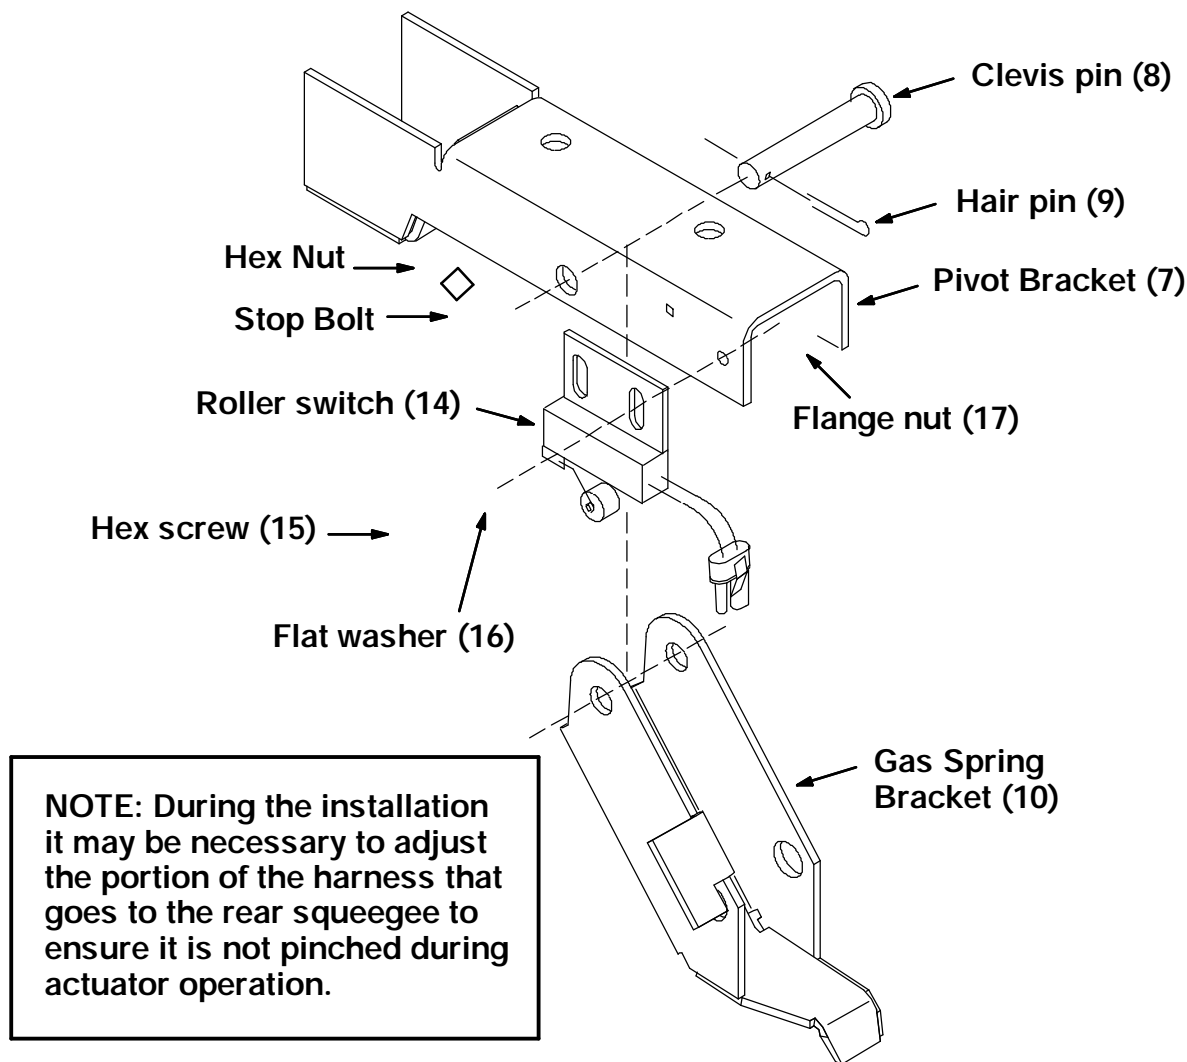

FIG. 3 - New Pivot Bracket and Switch Assembly
(Refer to Figures 3, 4, and 5)
1. Install the hex stop bolt and hex nut on the new pivot bracket (7). Leave loose for now. Use the hardware from the old bracket. (Refer to Fig. 3)
2. Install the new switch assembly (14) on the new pivot bracket (7). Use the two hex screws (15), flat washers (16), and flange nuts (17). Leave loose for now. (Refer to Fig. 3)
3. Install the new gas spring bracket (10) on the new pivot bracket (7) using the clevis pin (8) and the hair cotter pin (9). (Refer to Fig. 3 and 4)
4. Install the pivot bracket assembly on the machine frame using the hardware removed earlier. Tighten to 18 - 24 Nm (15 - 20 ft lb). (Refer to Fig. 3 and 4)
5. Install the actuator mount bracket (1) on the machine frame using the hardware removed earlier. Tighten to 18 - 24 Nm (15 - 20 ft lb). (Refer to Fig. 3 and 4)
6. Install the ball stud and nut on the new gas spring bracket (10). Tighten firmly. (Refer to Fig. 3 and 4)
15. Plug the new roller switch (14). into the existing electrical harness. (Refer to Fig. 3)
16. Adjust and tighten the head stop bolt and nut. (Refer to Fig. 3)
17. Adjust the roller switch and lightly hand tighten the hardware. (Refer to Fig. 3)